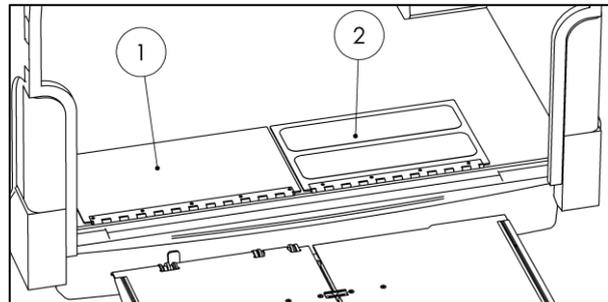

Fig. 70
- Fasten the bridge plate with the non-skid coating (2) on the right side. The non-skid coating must face upward when the bridge plate is folded shut (see Fig. 70).
- Fasten the non-coated bridge plate (1) on the left side (see Fig. 70).